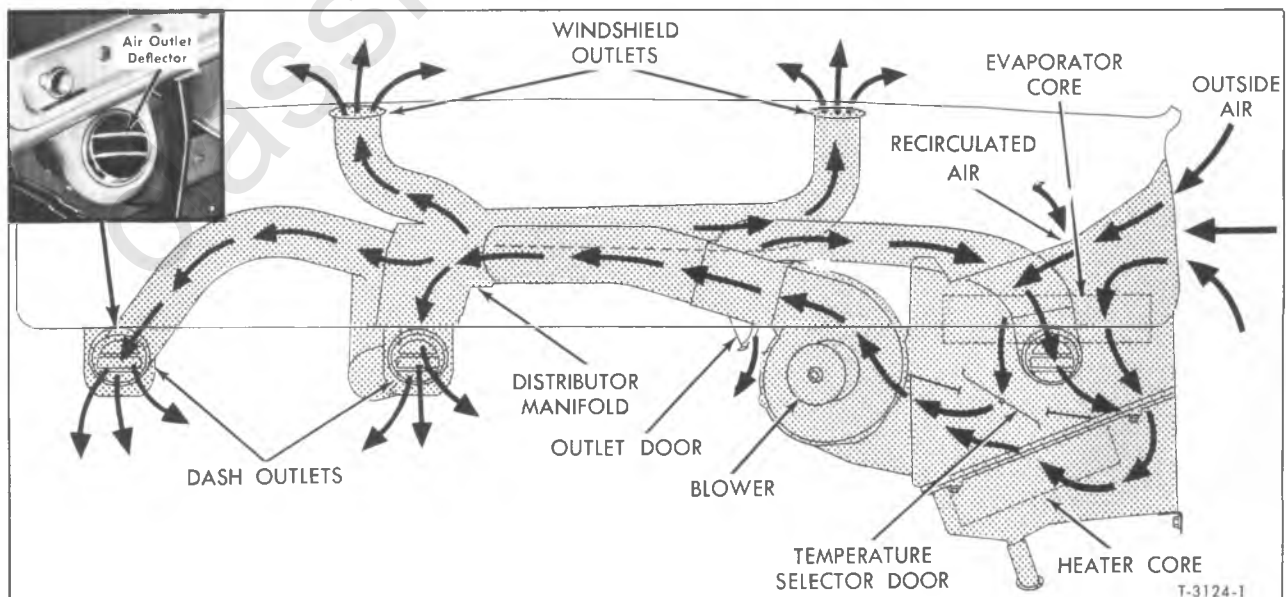
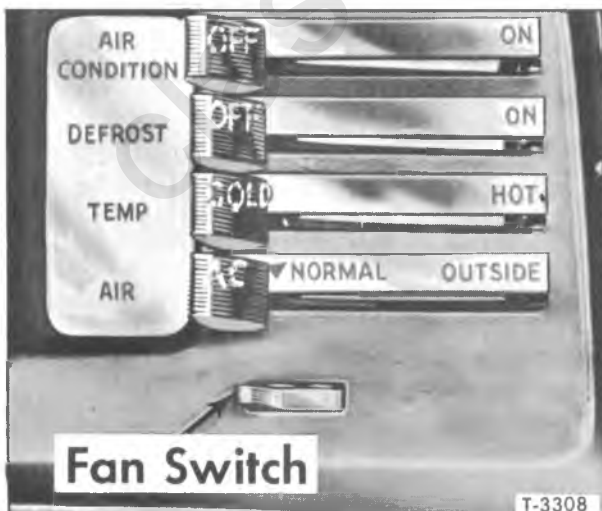

Figure 1— System Air-Flow
Figure 2—Air Conditioning Control Switches
1. The evaporator, located under right side of dash in an enclosed housing assembly, is designed to cool, dry, and clean the air that enters the cab. Refrigerant enters the evaporator as a low-pressure mixture of liquid and vapor. The liquid vaporizes at this low pressure, absorbing large quantities of heat from air that is forced through the evaporator core fins. Thus, air directed into the cab from the evaporator will be cooled (fig. 1). Also, moisture in air that passes through the evaporator condenses on fins and is drained off carrying away dust and pollen.
The air flow forced through the evaporator core and heater core results from the use of a multi-speed blower and motor assembly mounted at side of dash unit (fig. 1). Motor speed is controlled by a fan switch located on instrument panel (fig. 2).
### DESCRIPTION OF CONTROLS (Figs. 1 and 2)
6. Direction of air flow from dash outlets (fig. 1) can be controlled by positioning of outlet inner deflector. The inner deflector can also be oscillated to completely close the outlet if desired. To close off any one of the outlets will increase the flow from remaining open outlets. The small outlet door at base of distributor duct can be opened if desired by pulling downward on door tab.